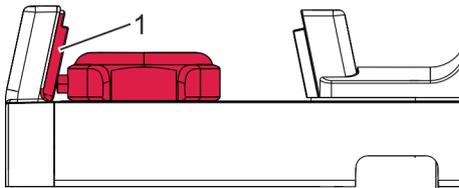
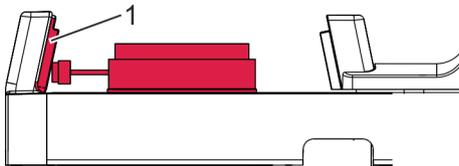

Fig. 9: Clamping the complete watch
Fig. 10: Clamping the clockwork with cup
2. ➔ Place the watch or cup on the clamping area so that the crown of the watch or cup is positioned against the signal sensor (Fig. 9/1, Fig. 10/1).